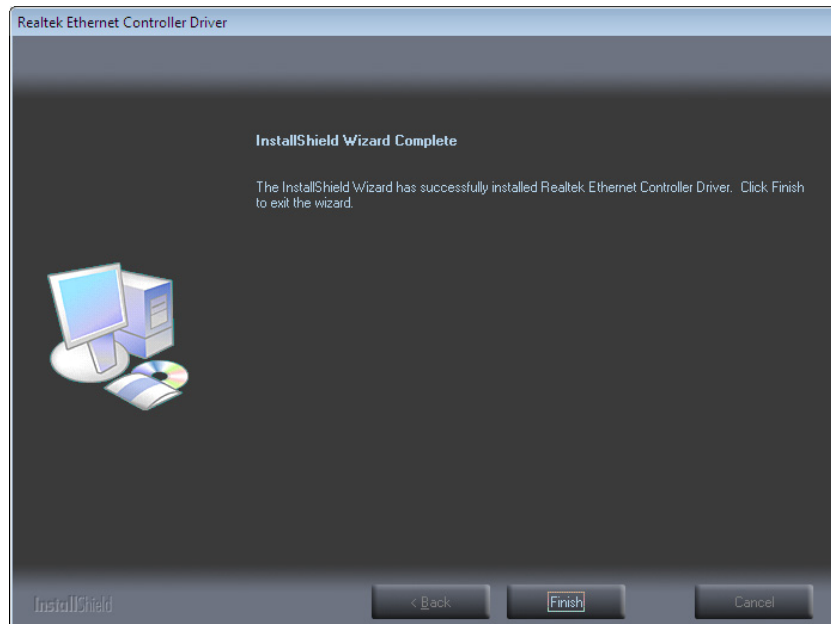

Figure 6-15: LAN Driver Installation Complete
Step 7: When the driver installation is complete, the screen in **Figure 6-15** appears.